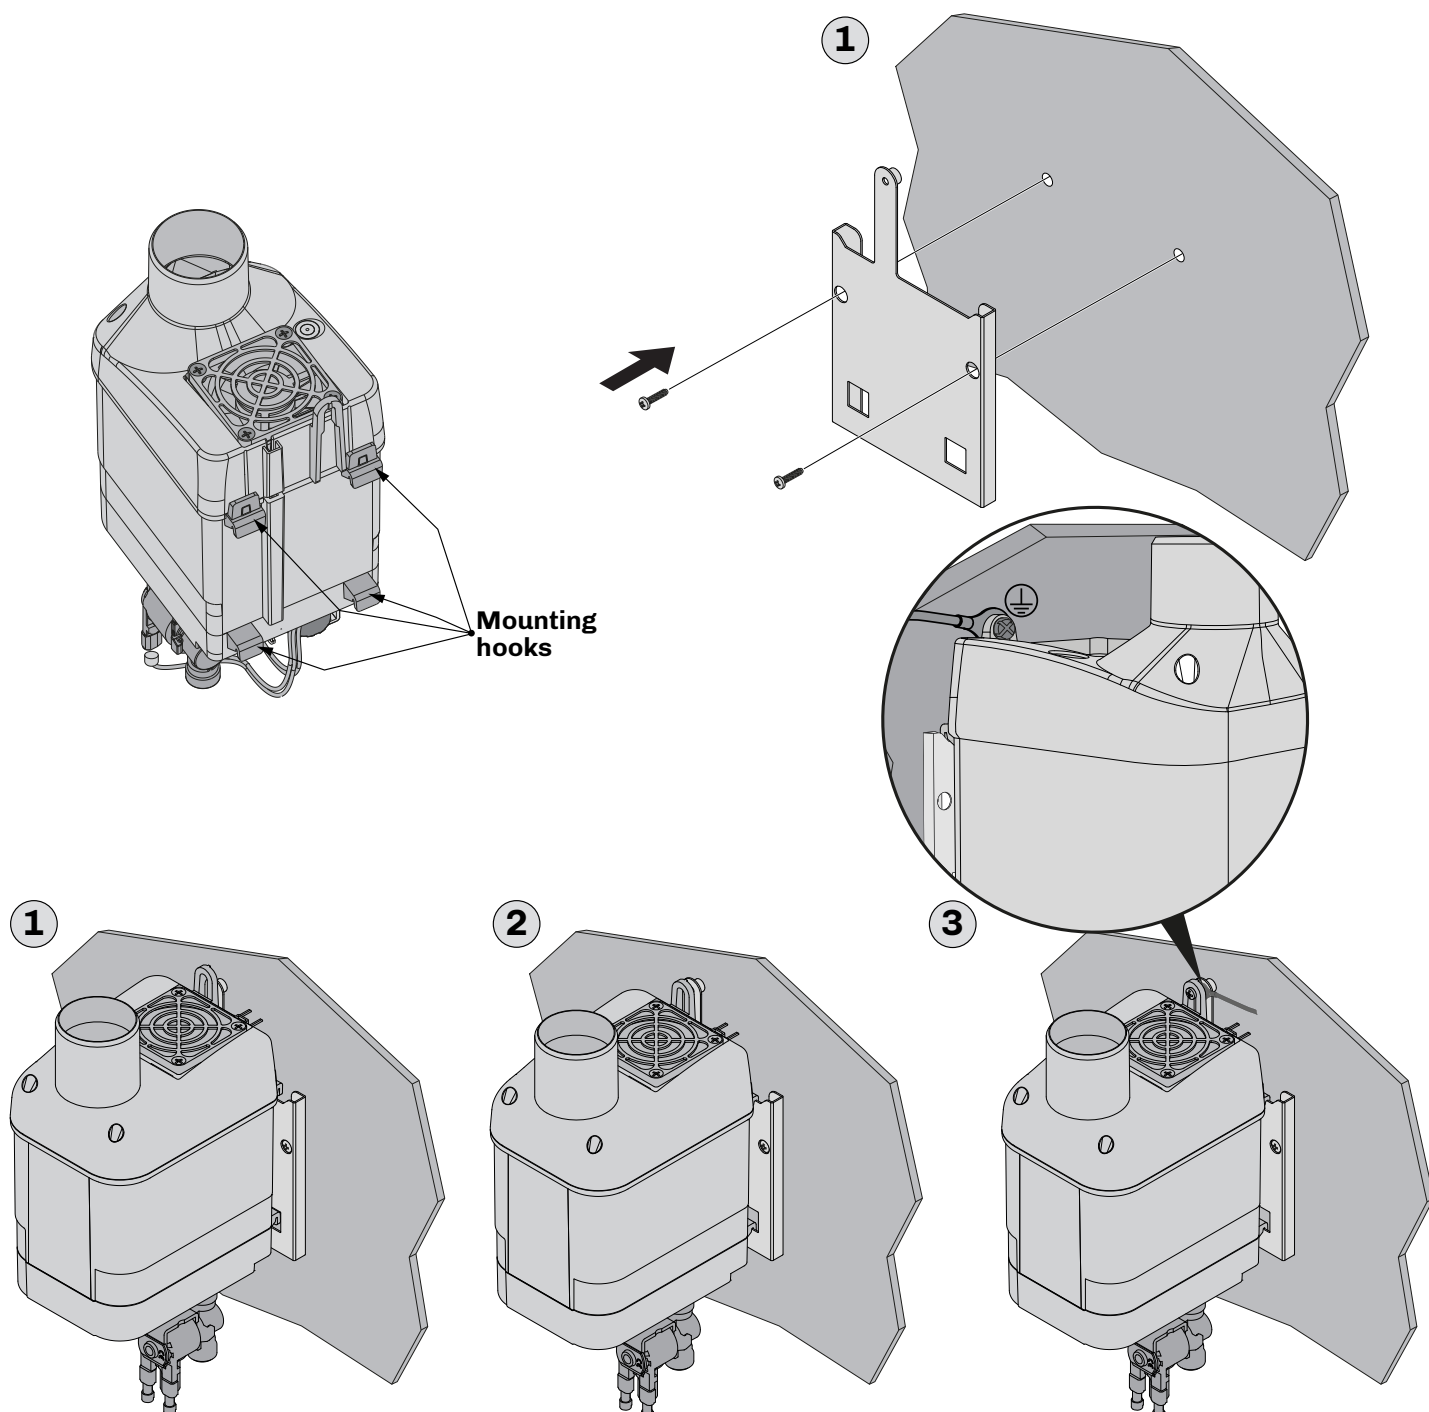

Fig. 7. Instructions for mounting with a support bracket
- Secure the support bracket to the wall following the instructions given in the picture "**FIG. 7. INSTRUCTIONS FOR MOUNTING WITH A SUPPORT BRACKET**" ON PAGE 19 and the dimensions of the holes and bracket given in the subsection "**4.5.1 SUPPORT BRACKET DIMENSIONS**" ON PAGE 18 (1);
- Attach the **Mistral** humidifier to the bracket, making sure it is secure (2);
- Secure the humidifier to the wall, where the support bracket is mounted, and the earthing connection using an **M4** flat-head screw, which is appropriate for the fixing wall (3).